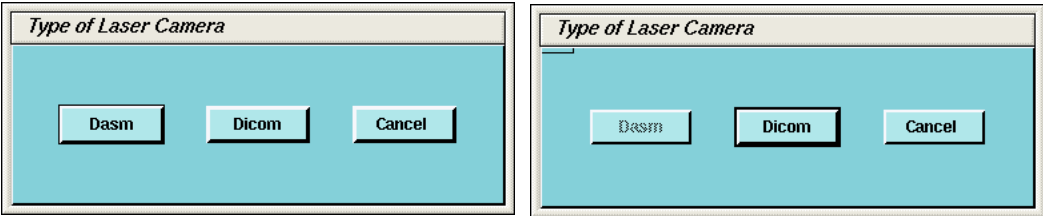

Figure 12-10 Dialog Box for camera Type (with and without DASM)
- b.) A dialog window for the camera type (DASM/DICOM) appears. If no DASM is detected during the OC boot, the DASM button will be disabled (Figure 12-10). If a DASM is present